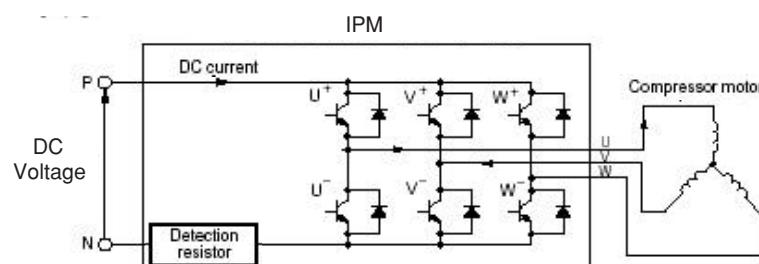

Fig. 6-6
(1) Turns on the power module's U+ and V- transistors so the current flows to the motor windings as shown in Fig. 6-6.
(2) Varies the turn-ON time of the W+ transistor according to the DC voltage level and the start is controlled so the start current is approx. 10A .